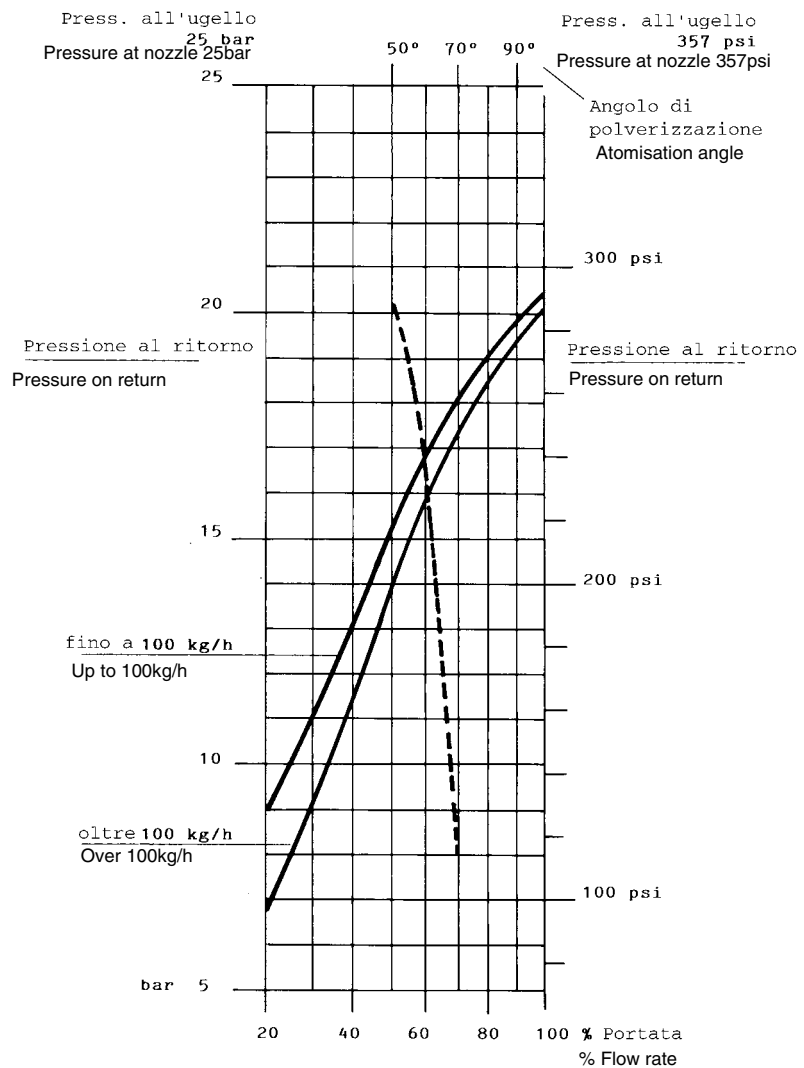

Fig. 20
The light oil flow rate can be adjusted choosing a nozzle that suits the boiler/utilisation output and setting the delivery and return pressure values according to the ones quoted on the chart below and the diagram on Fig. 20 (as far as reading the pressure values, see next paragraphs).
Example: as far as over 100kg/h nozzle the 80% of the nozzle rated flow rate is achieved with 18bar return pressure (see Fig. 20).
- 16 move cam III (low flame) towards the minimum to move the actuator towards the low flame until the two bearings find the adjusting screw that refers to a lower position: screw **V** to increase the rate, unscrew to decrease, in order to get the pressure as shown on diagram in Fig. 20, according to the requested rate.